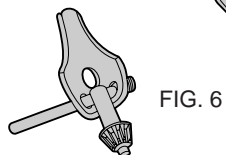

FIG. 6
3. Push ends of chuck key handle through two holes in end of holder (Figure 6.)